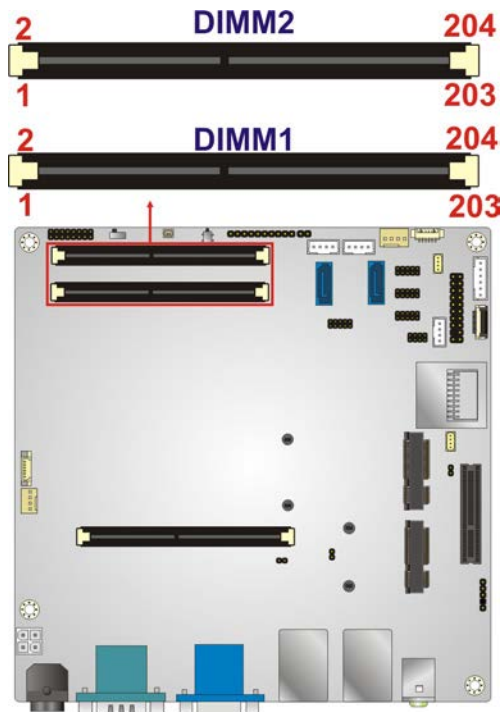

Figure 3-8: DDR3/DDR3L SO-DIMM Slot Location
- CN Location:** See **Figure 3-8**